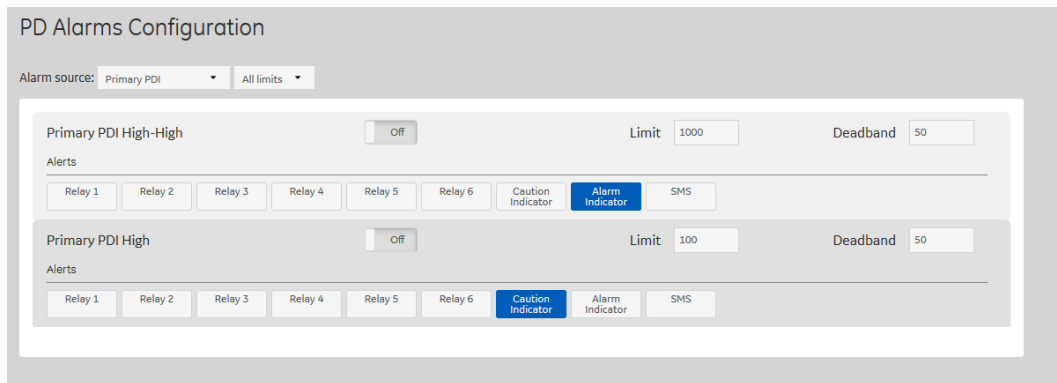

Figure 10-31: PD Alarms Configuration > Primary PDI
- Select **Alarms > PD Alarms Configuration** and expand the **Primary PDI** alarms as shown in Figure 10-31.